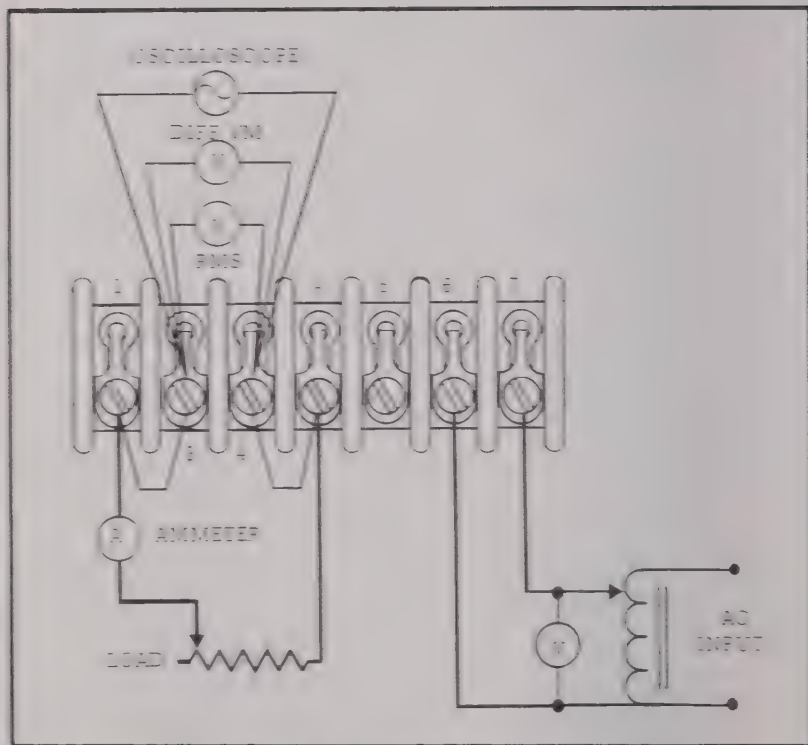

Figure 5-4. Performance Test Setup
a. Connect a test set-up as shown in Figure 5-4. Set oscilloscope for 0.5mV/cm vertical and 10ms/cm horizontal. (Oscilloscope should have at least a 30 MHz bandwidth). Select a 150-V range for a-c input voltmeter. Choose a 0.5mV range for RMS meter and a 5 (10) Arange for a-c ammeter. Use a resistive load with a working current rating
a. Connect unit to test set-up shown in Figure 5-4. The oscilloscope and RMS voltmeter are not necessary. Use the multimeter in the differential mode. Select an internal voltage equal to 10 (14) volts, and set null sensitivity to the 10 mV range.